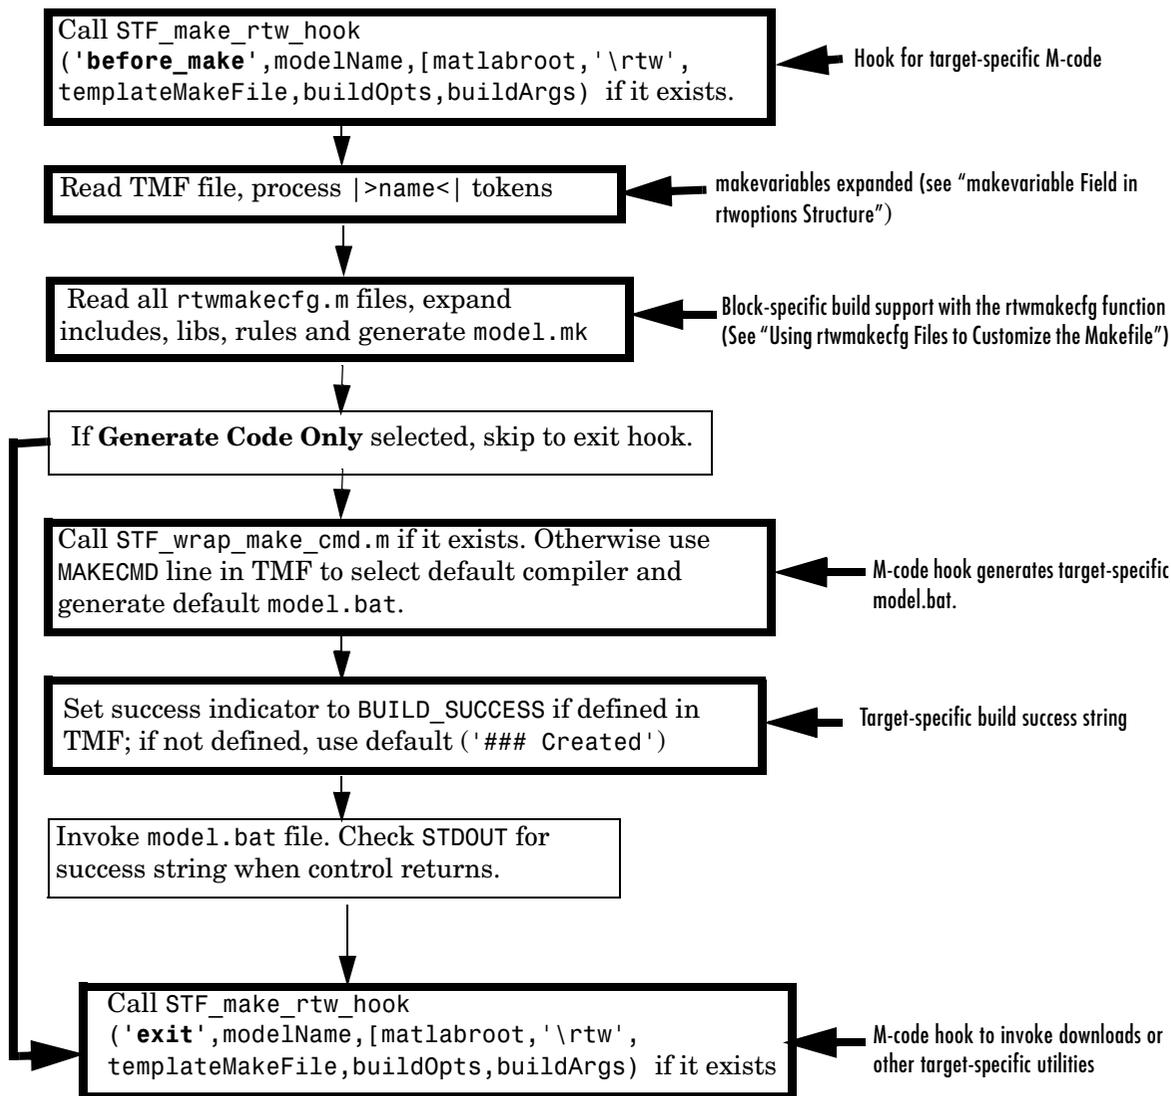

Figure 3-4: M-Code, model.bat, and Makefile Environment Flowchart
- Figure 3-4 on page 3-15 depicts the final M-code, `model.bat`, and `make` phase.